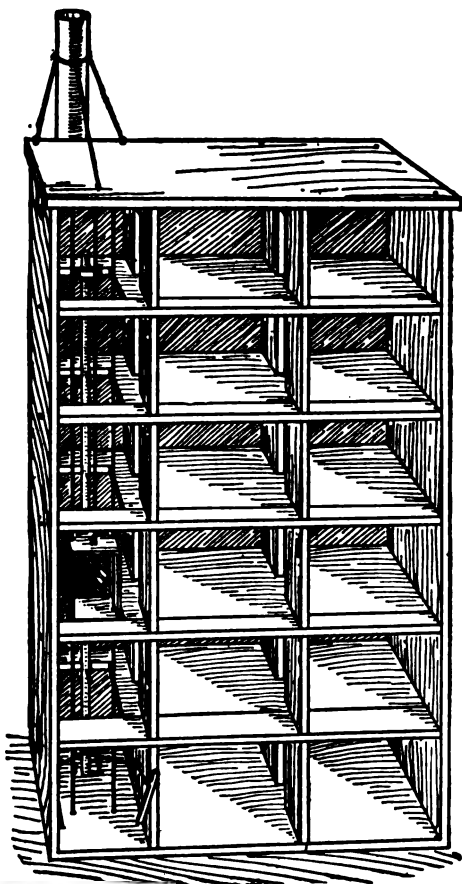

FIG. 96. — A Toy Office Building with Elevator.
**THE** elevator shown in Fig. 96 is a unique mechanical toy well worth one's making. Release the little car at the top floor, and it will descend to the ground floor, and then return to the starting point, without you having to touch it a second time. A magical elevator? Perhaps so. A little mechanical device performs the trick.
**A Toy Office Building.** Six stories are shown in Fig. 96, but you can make a modern sky-scraper with as many stories as you like. A packing-case 3 feet 6 inches long, stood on end, was used for the model. Another box or two can be added to the top for additional stories. Besides the box, or boxes, get enough box boards for floors and partitions.